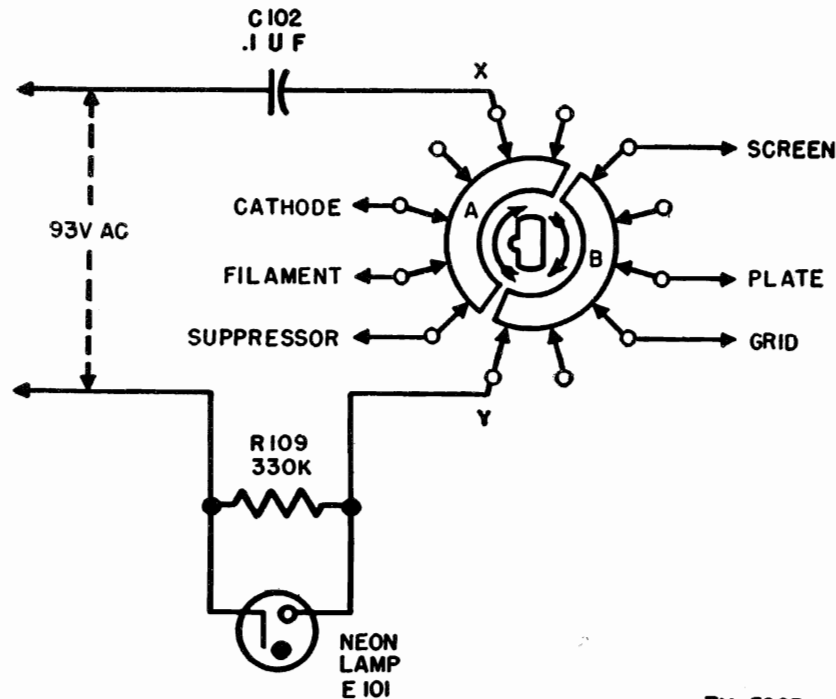

Figure 20. Simplified shorts test switch diagram.
- (2) Conductors from socket contacts 1 through 9 enter the switching circuit from the left and progress toward the right through the FILAMENT, GRID, PLATE, SCREEN, CATHODE, and SUPPRESSOR selectors. To simplify the illustration only portions of the first four selectors have been shown.
b. *Shorts Test Switch.* The operation of the SHORTS portion of FUNCTION SWITCH S109 is illustrated by figure 20. It shows the shorts test section in the number 1 position. In this position, the cathode filament, and suppressor of the tube under test are in contact with segment A; and the screen, plate, and grid are in contact with segment B. Any shorted condition between an element on segment